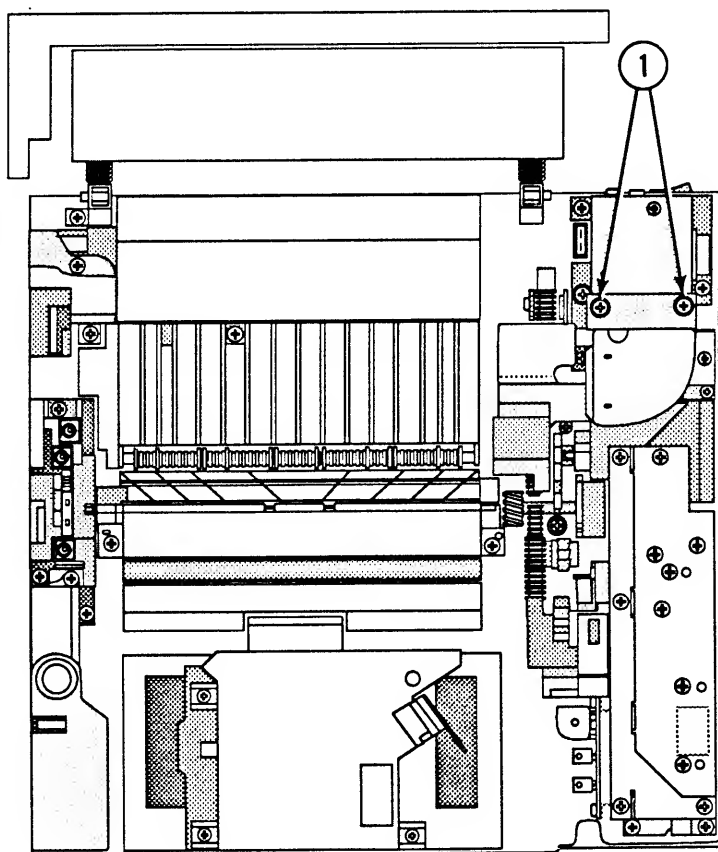

FIGURE 25
2. Remove the two Phillips screws (Figure 25, #1) that secure the filter case and fan duct to the power supply block. Remove the filter case and fan duct by pulling straight up.